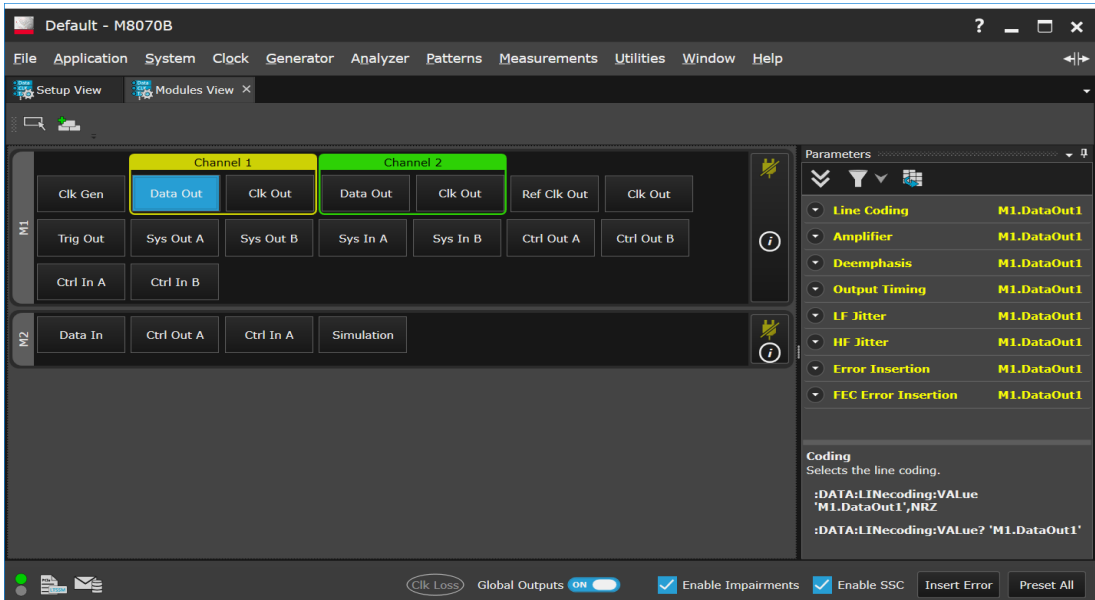

Figure 18 M8070B user interface
- 4 The screen shown in Figure 18 on page -50 should now be displayed.